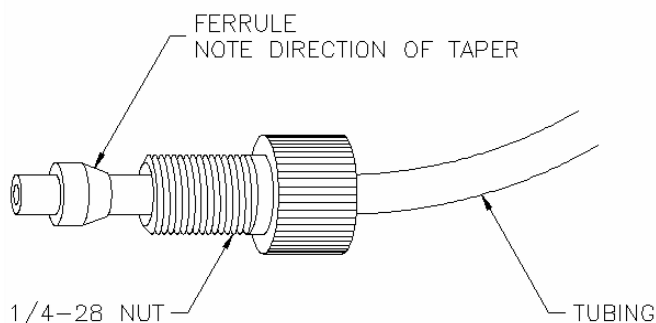

Figure 11 Configuration of 1/4-28 Nut, Ferrule and Tubing
3. Push the tubing through a PEEK 1/8" male 1/4-28 fitting and slide a ferrule over the tubing end (see Figure 11). Cut the Teflon tubing so the end is flat.